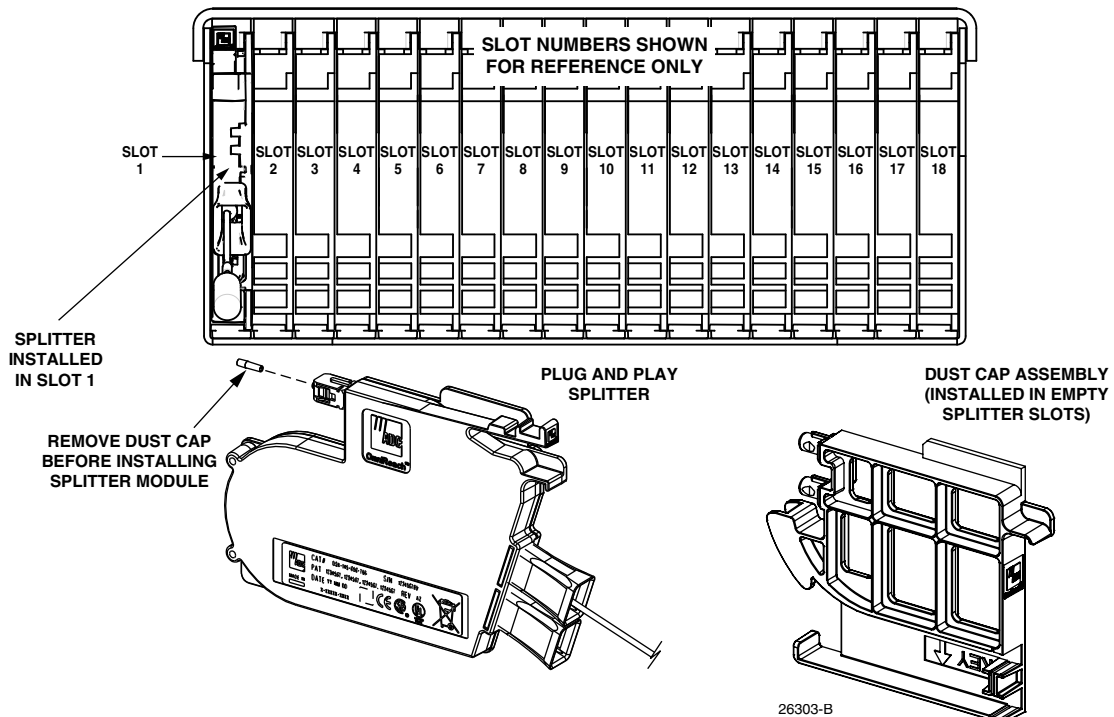

Figure 19. Splitter Module Mounting Slots
- 13.2 Locate the next available splitter mounting position as shown in Figure 19.